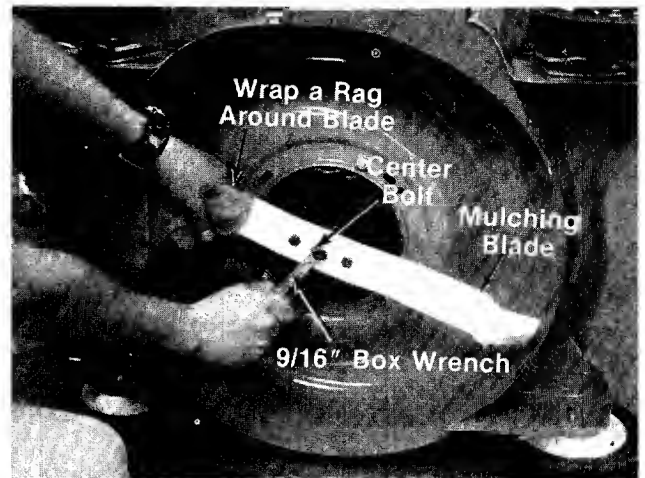

FIGURE 11.
2. Remove the mulching blade by removing only the center bolt and lock washer. A 9/16" box wrench or an adjustable wrench is required. Hold the blade with a rag to prevent cutting your hand. See figure 11.